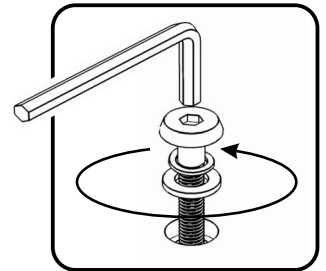

Figure 1
Remove Table Slides (F) from their packing position by removing Head Cap Bolts, Spring Washers (small) and Flat Washers (small). (See Figure 1)